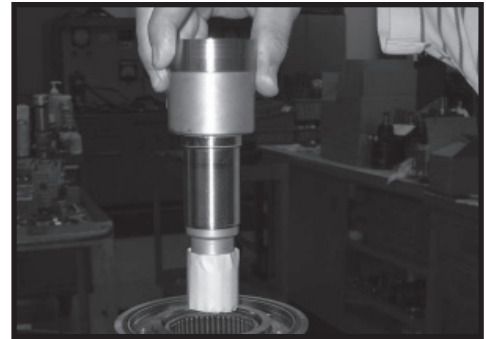

Figure 47
- Be sure that a generous amount of clean corrosion resistant grease has been applied to the lower (outer) housing bearing/bushing (19). Install the coupling shaft (12) into housing (18), seating it against the thrust bearing (15) in TC, TS, TB and TE Series housings and against the second thrust washer (14) in TF, TL, TG and TH Series housings. SEE FIGURE 47.
**CAUTION:** The outer bearing (19) is not lubricated by the system's hydraulic fluid. Be sure it is thoroughly packed with the recommended grease, Parker Gear grease specification #045236, E/M Lubricant #K-70M.